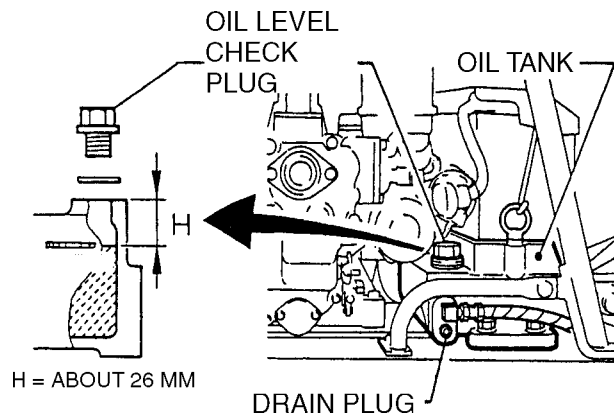

Figure 28. Hydraulic Oil Maintenance
1. Remove the drain plug (Figure 28) at the bottom of the oil tank with a 6 mm hex wrench and drain the hydraulic oil.